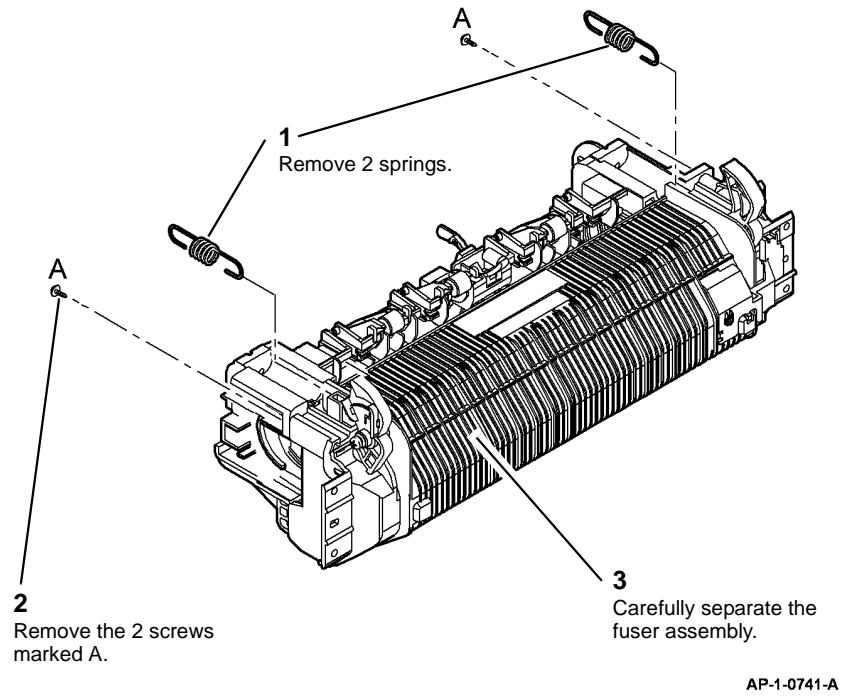

Figure 3 Separating the Fuser Assembly
4. Separate the Fuser Assembly (Figure 3).